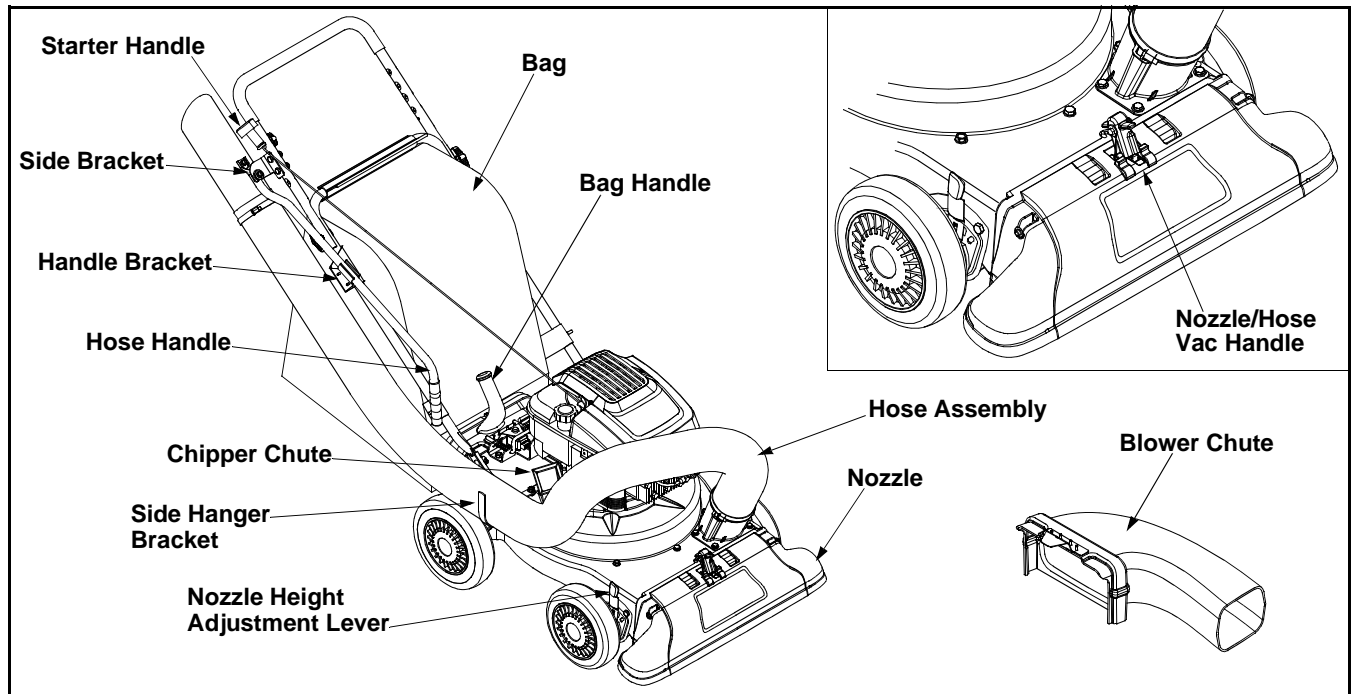

Figure 6
- Connect the hose handle near nozzle end of hose to the side bracket on the upper handle. Refer to Figure 6.
- Snap hose handle to the lower handle bracket to secure in place and lay hose tubing on side bracket hanger next to chopper chute. Refer to Figure 6.
Read this operator's manual and safety rules before operating your Yard Vacuum. Compare the illustrations in Figure 6 with your unit to familiarize yourself with the location of various controls and adjustments.
Wheels: Lubricate each wheel shoulder screw once a season with light oil. Refer to Figure 6.
Nozzle height adjustment levers: Lubricate the pivot points of the nozzle height adjustment levers once a season with light oil. Refer to Figure 6.
Locking Rod: Lubricate the locking rod with light oil to ease the application of attaching on or removing bag or blower chute. Refer to Figure 6.
Nozzle/Hose Vac Handle: Lubricate the nozzle/hose vac handle on top of nozzle once a season with light oil. Refer to Figure 6.